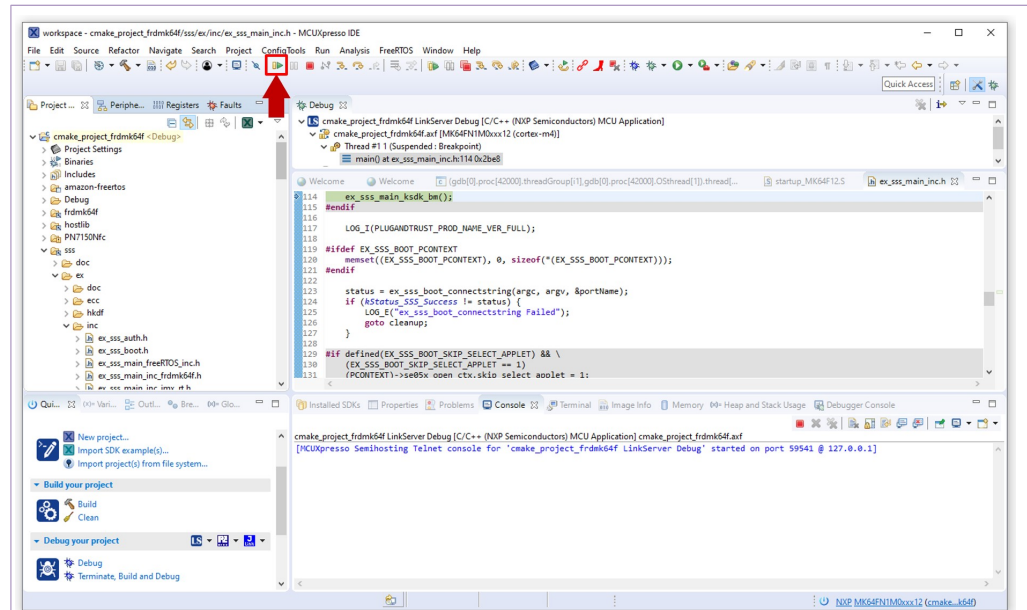

Figure 41. Resume se05x\_minimal project example
- When it executes, it will automatically stop in a breakpoint. Click on **Resume** to allow the software to continue its execution as shown in Figure 41.